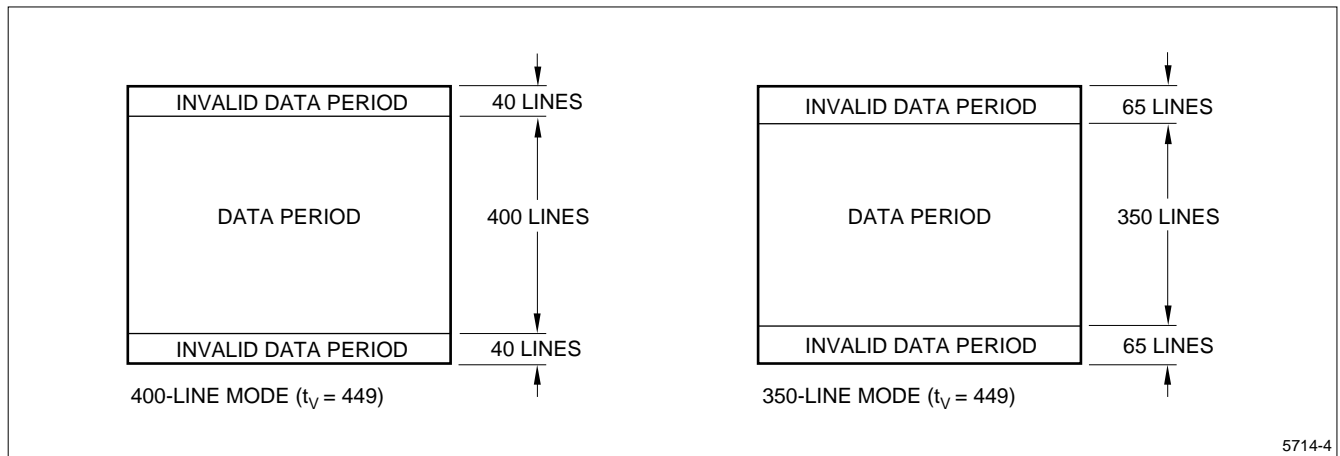

Figure 4. Vertical Display Position
2. The vertical invalid data period is displayed in 400-line and 350-line modes. All data is recommended to be '0' during vertical invalid data period. See Figure 4. In 400-line and 350-line modes, the display position will not be centered on the screen if the vertical sync signal, TV, does not have above typical values.